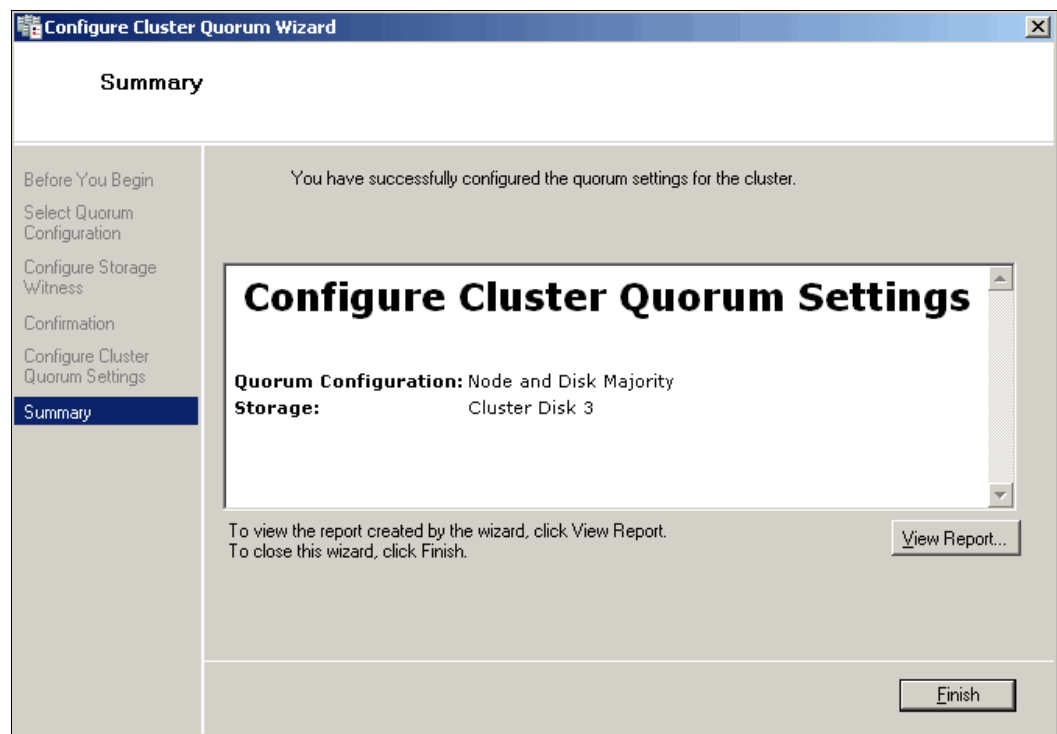

Figure 19-26 Summary of the Cluster Quorum Settings
7. Verify the Cluster Quorum Settings as shown in Figure 19-26 and click **Finish** to complete the task.